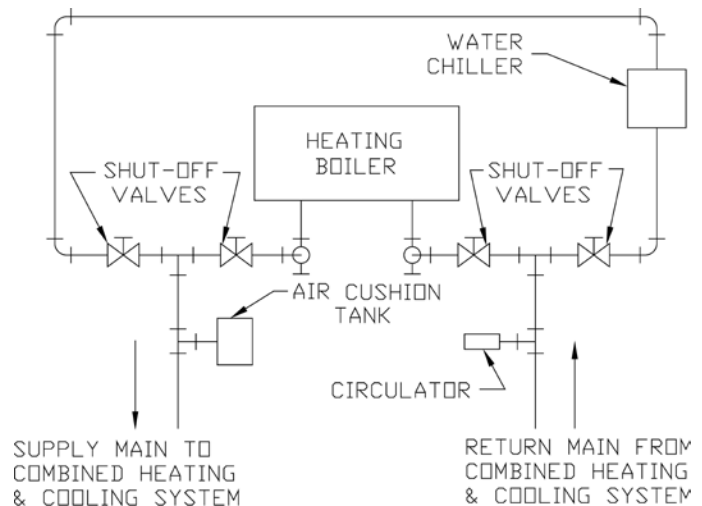

Figure 6: Recommended Piping for Combination Heating & Cooling (Refrigeration) Systems
G. If boiler is used in connection with refrigeration systems, boiler must be installed with chilled medium piped in parallel with the heating boiler using appropriate valves to prevent chilled medium from entering boiler, see Figure 6. Also consult I=B=R Installation and Piping Guides.